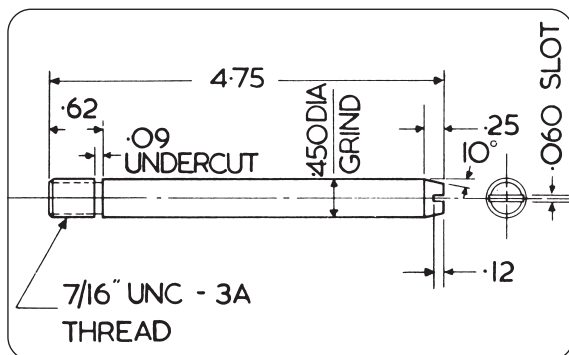

Fig. 15
- b) Install the guide studs as shown in Fig.15 in the cylinder block to hold the gasket in place and ensure the correct alignment of the cylinder head while installation.